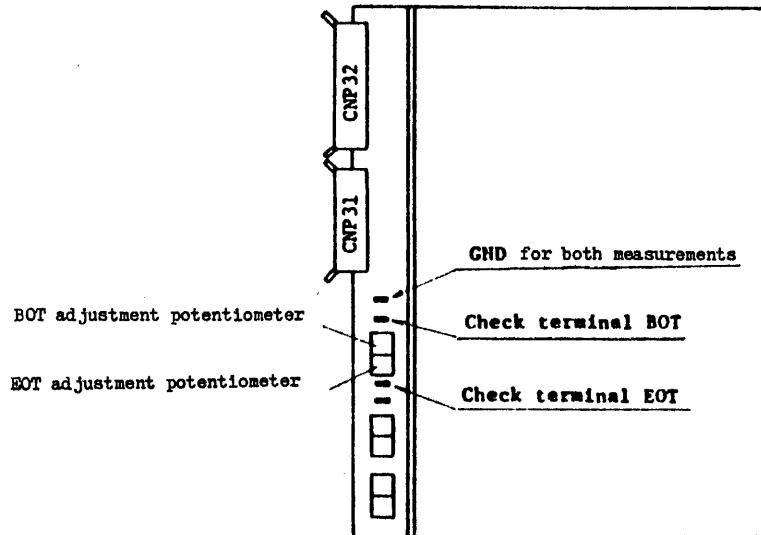

Figure 4-5. PCA 1A04 located in the MTU logic gate assembly.
- (2) Before loading tape, check the voltage levels at terminals BOT/GND and EOT/GND (See Figure 4-5) with a digital voltmeter. The readings should be +2.0 V.